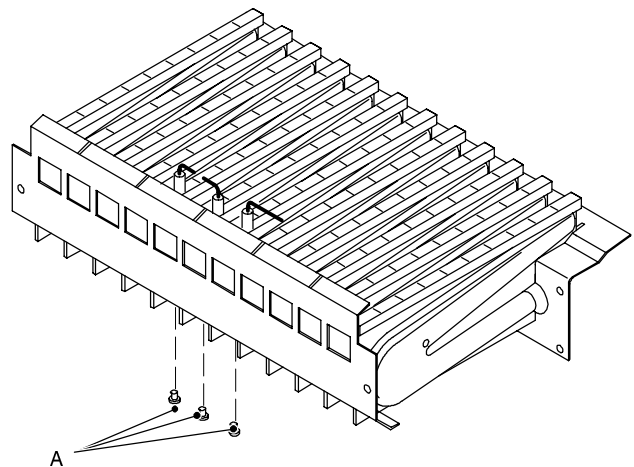

fig. 79
- 4 Unscrew the screws A (fig. 79) which hold the electrodes to the burner.